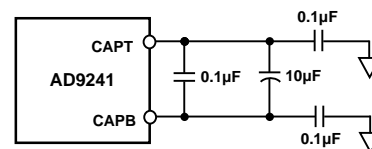

Figure 27. Recommended CAPT/CAPB Decoupling Network
The actual reference voltages used by the internal circuitry of the AD9241 appear on the CAPT and CAPB pins. For proper operation when using the internal or an external reference, it is necessary to add a capacitor network to decouple these pins. Figure 27 shows the recommended decoupling network. This capacitive network performs the following three functions: (1) in conjunction with the reference amplifier, A2, it provides a low source impedance over a large frequency range to drive the A/D internal circuitry, (2) it provides the necessary compensation for A2, and (3) it bandlimits the noise contribution from the reference. The turn-on time of the reference voltage appearing between CAPT and CAPB is approximately 15 ms and should be evaluated in any power-down mode of operation.
The figures associated with this section on internal and external reference operation do not show recommended matching series resistors for VINA and VINB for the purpose of simplicity. Please refer to section Driving the Analog Inputs, Introduction, for a discussion of this topic. Also, the figures do not show the decoupling network associated with the CAPT and CAPB pins. Please refer to the Reference Operation section for a discussion of the internal reference circuitry and the recommended decoupling network shown in Figure 27.